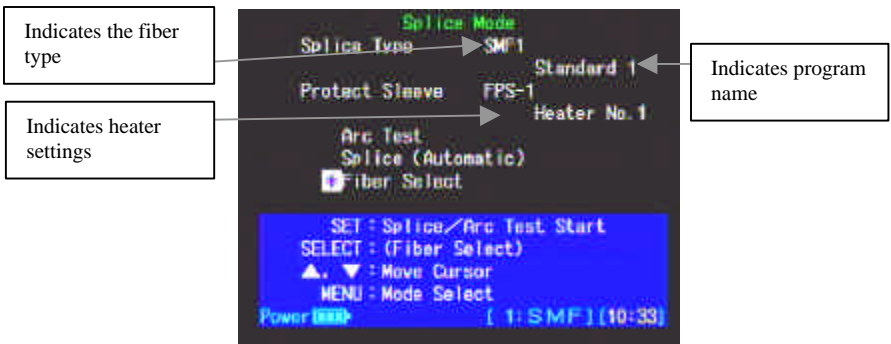

Figure 27. Splice Mode Menu Screen
13.1.1 The Splice Mode Menu shown in Figure 27 is the normal mode of operation. This mode is used for all splicing operations. When the splicer is first turned on, or the "RESET" key is pressed the splice mode menu screen will appear.
- **SPLICE-** Activated by pressing the "SET" key, this function initiates the splicing process. In Figure 27, (Automatic) indicates that the splicing process is set for automatic splicing. To change to manual splicing refer to Section 13.6.3, *Changing Splicing Mode Operation*.